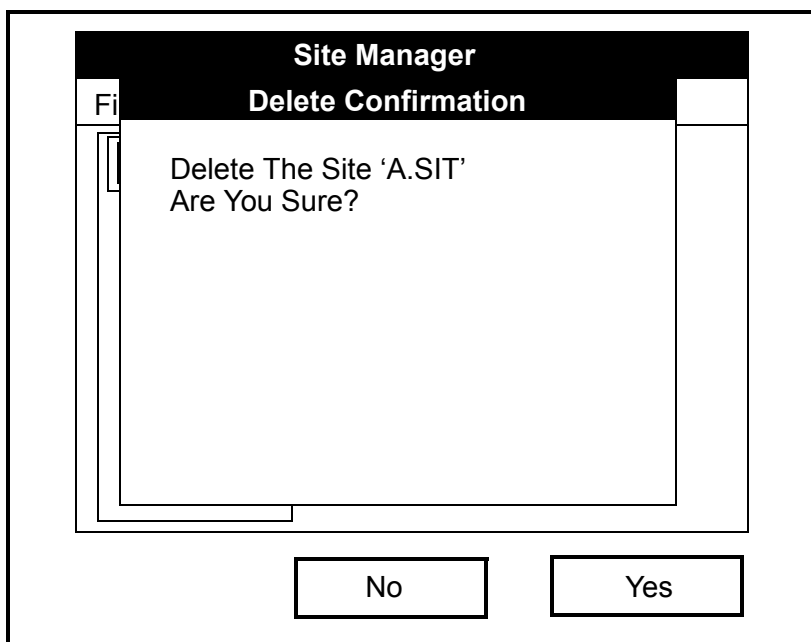

Figure 4-10: The Delete Confirmation Window
2. Scroll to the *Delete* option and press [ENTER]. A window similar to Figure 4-10 below opens.